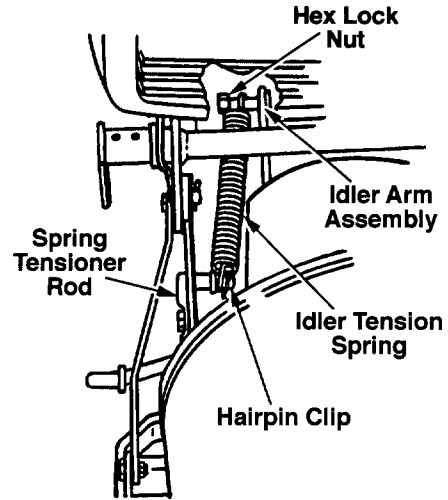

Figure 17
7. Make certain the idler tension spring is hooked to the stud of the idler arm assembly and to the shorter arm of the spring tensioner rod. See Figure 17.